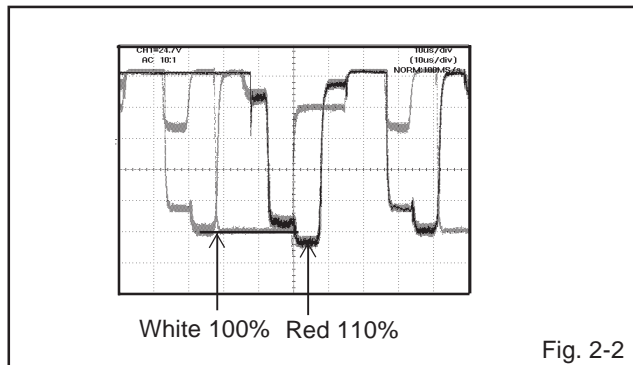

Fig. 2-2
7. Press the VOL. UP/DOWN button on the remote control until the red color level is adjusted to $110 \pm 10\%$ of the white level. (Refer to **Fig. 2-2**)